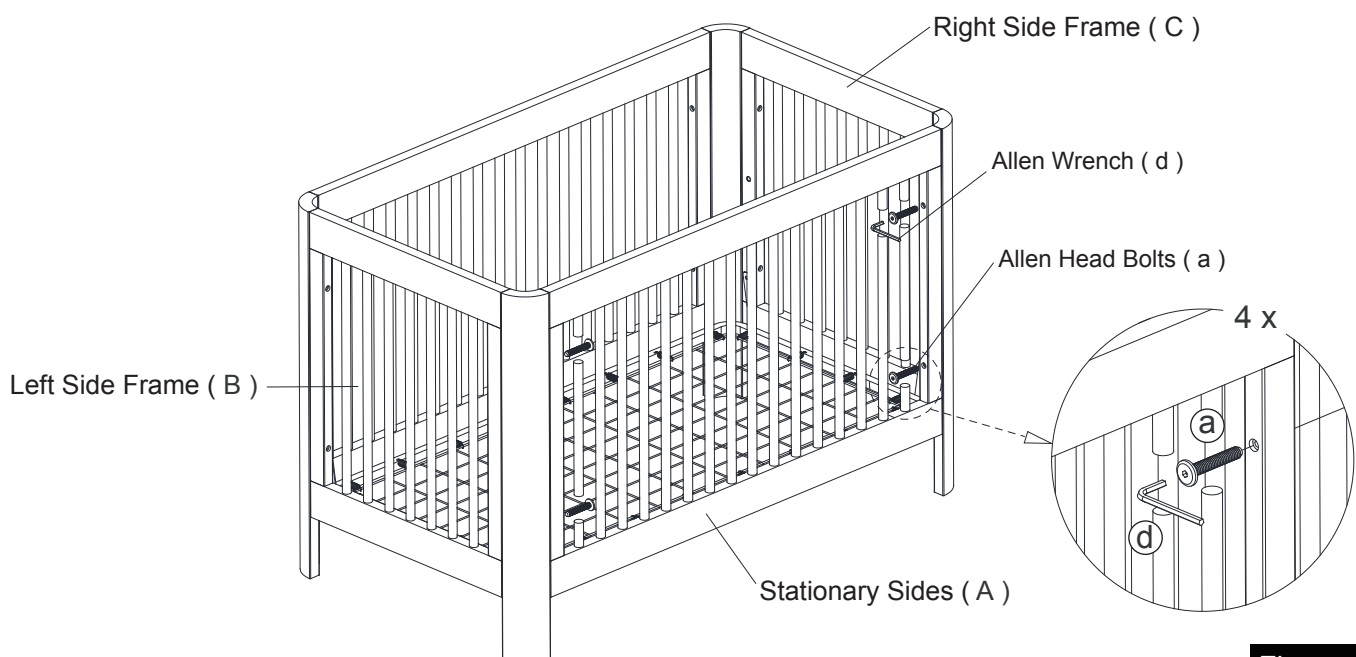

Figure 4 :
A. Attach the First Stationary Side (A) to the Crib Side Frame (B) & (C) Using 57mm Allen head bolts (a) . See Figure 4 .